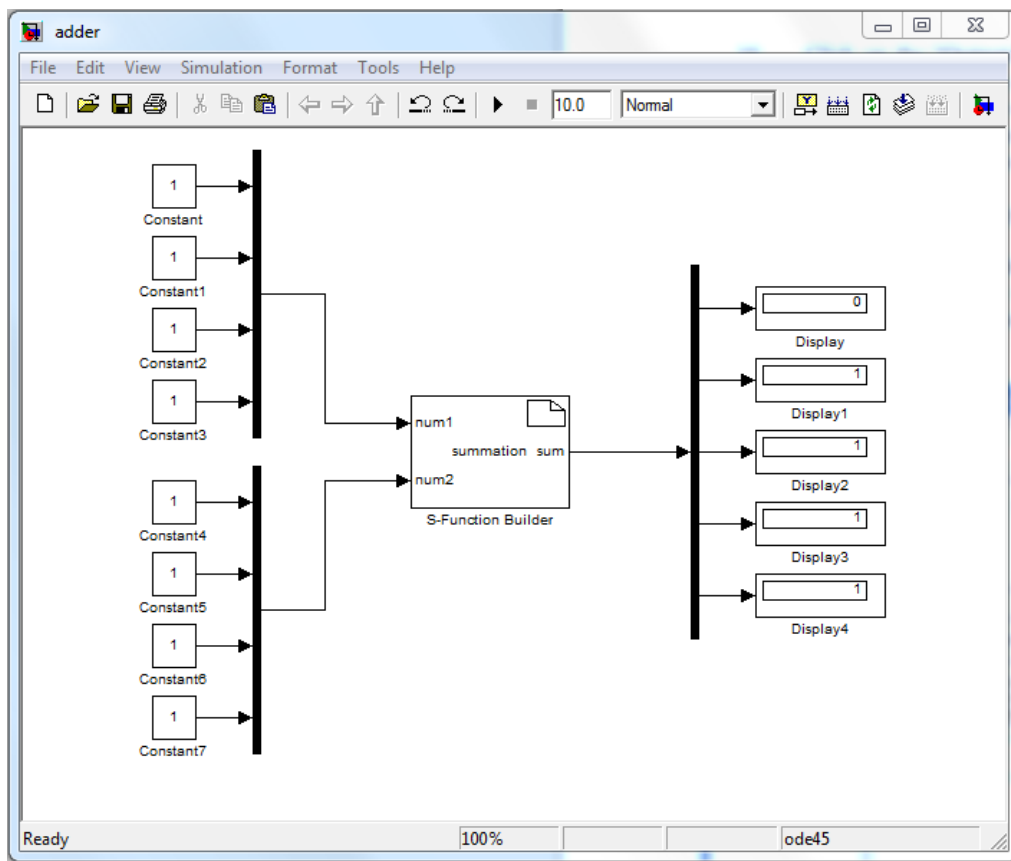
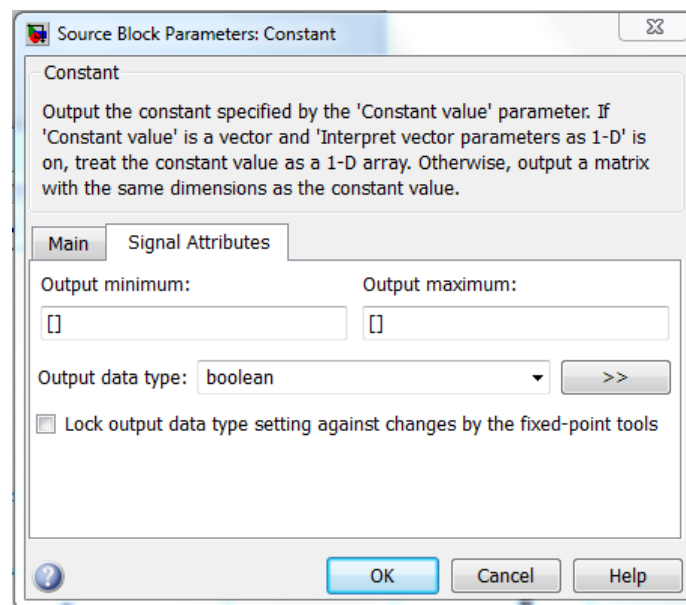

Figure 7
Figure 8
10. Your S-Function block should now be updated with the input and output ports. Now complete the model as shown in figure 7. You will have to change the data types of the constant blocks to “boolean”. See figure 8 for reference.